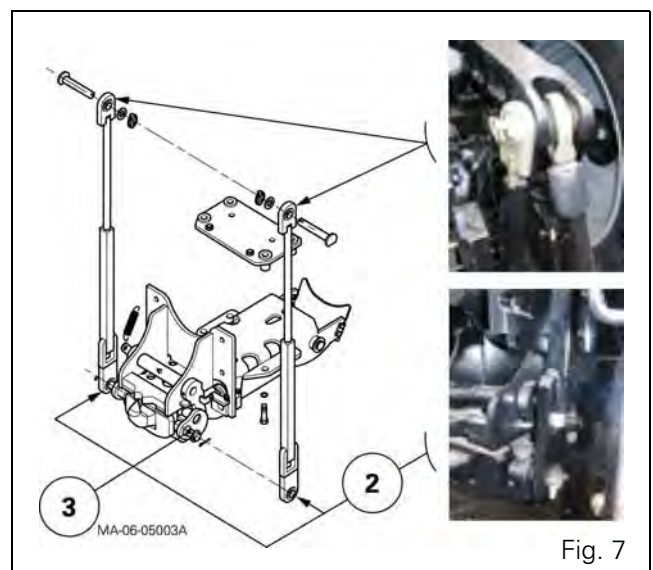

Fig. 7
7. Adjust each tie rod to as short a length as possible by moving the clevises (2) (Fig. 7): the clevises should fit freely on the pins (3) of the moving plate.